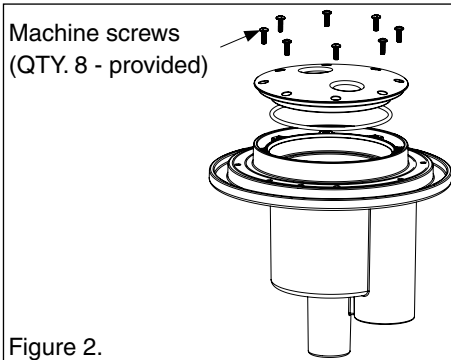

Figure 2.
1. Install the O-ring on the gunite cover and install the gunite cover over the top of the niche using the supplied machine screws, see Figure 2. This will protect the light cavity of the niche during installation. Secure the gunite cover with the eight (8) 8-32 x 1/2" machine screws (provided), see Figure 2. Using a No. 2 Philips head screwdriver, tighten each retaining screw to a torque value of 10.00 (minimum) to 15.0 (maximum) in-lbs to secure the gunite cover on the niche. **DO NOT OVER TIGHTEN THE SCREWS. DO NOT ASSEMBLE WITH POWER TOOLS.** Over tightening or using a motorized screwdriver on the gunite cover screws can over torque the screw threads and damage the niche housing and/or gunite cover.
1. Install the O-ring on the gunite cover and install the gunite cover over the top of the niche using the supplied machine screws. This will protect the light cavity of the niche during installation. Secure the gunite cover with the eight (8) 8-32 x 1/2" machine screws (provided), see Figure 2 on page 6. Using a No. 2 Philips head screwdriver, tighten each retaining screw to a torque value of 10.00 (minimum) to 15.0 (maximum) in-lbs to secure the gunite cover on the niche. **DO NOT OVER TIGHTEN THE SCREWS. DO NOT ASSEMBLE WITH POWER TOOLS.** Over tightening or using a motorized screwdriver on the gunite cover can over torque the screw threads and damage the niche housing and/or gunite cover.